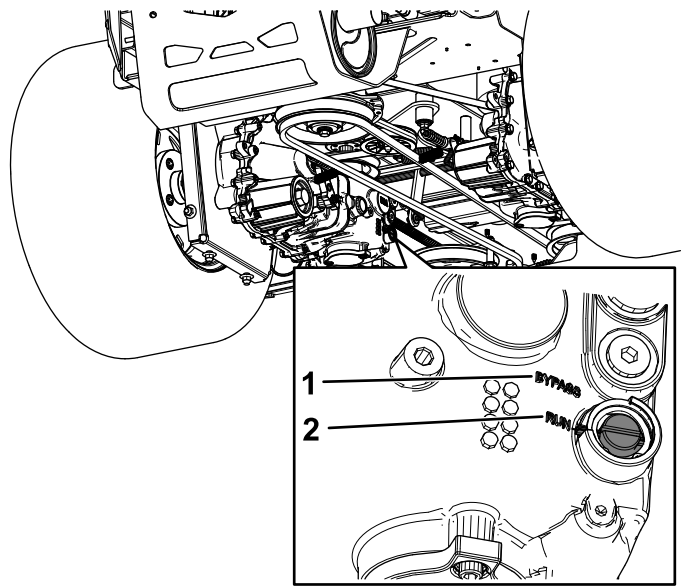

Figure 40
3. Using a flat-head screwdriver, rotate both cams to the BYPASS position (Figure 40).
5. To run the machine, rotate both cams to the RUN position (Figure 40).